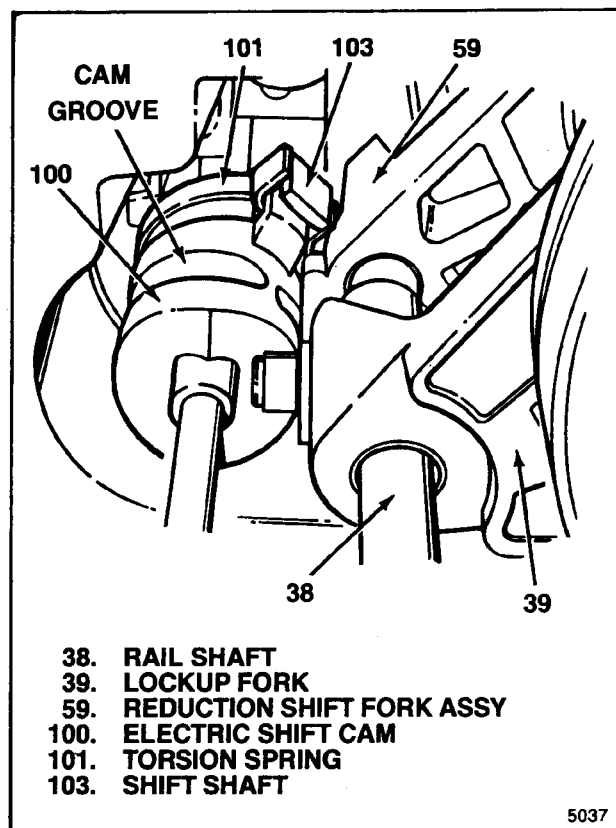

Figure 5-17. Electric Shift Cam Installation
c. Engage lockup fork (39) in groove in 2W-4W lockup assembly and slide this group down over output shaft (55) and rail shaft (38).
d. Install shift collar hub (32), engaging splines on output shaft (55) and in 2W-4W lockup assembly (33).
e. On electric shift units only, install electric shift cam group (100 through 103) previously assembled (paragraph 5-6) and clutch housing (31) as follows:
1. Position electric shift cam group as shown in figure 5-17, rotated so that end of torsion spring (101) will contact side of reduction shift fork assembly (59) that faces up, toward top of case.
2. Holding rail shaft (38) down, raise up fork assemblies (59 and 39) slightly. Rotate electric shift cam group into position so that roller on reduction shift fork assembly (59) is in groove in shift cam (100) and button on lockup fork (39) is on cam end. Then lower this group of parts into the transfer case engaging shift shaft (103) on pin in transfer case.
3. Position clutch housing (31) in transfer case over shift collar hub (32). Attach with retaining ring (30) in clutch collar hub groove.